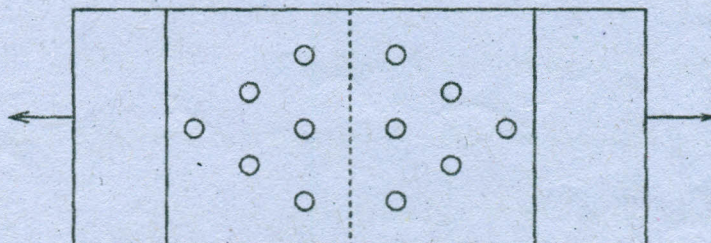

Fig. Q12b
- (b) A butt joint under tension is used to connect two 20 mm thick plates using 20 mm diameter bolts as shown in fig Q12b. Determine the efficiency of the joint. Use Fe410 plates and 4.6 grade bolts. Width of plate is 300 mm, thickness of top and bottom cover plates is 12 mm each. Use plates of grade Fe 410.